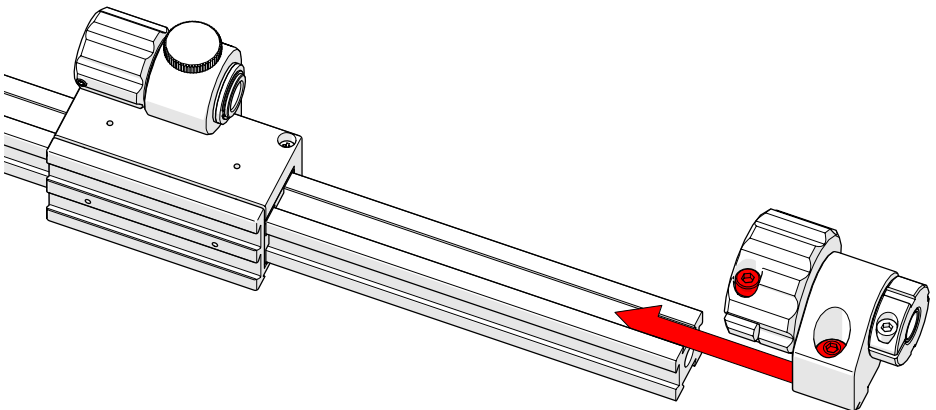

Fig. 226 - Place main knob on frame bar
3. Loosen the main knob's hexagonal screw and lock screw (*Fig. 226 - note red highlight*).
4. Align the dovetail nut of the main knob with the frame bar and slide it into position (*Fig. 226*).